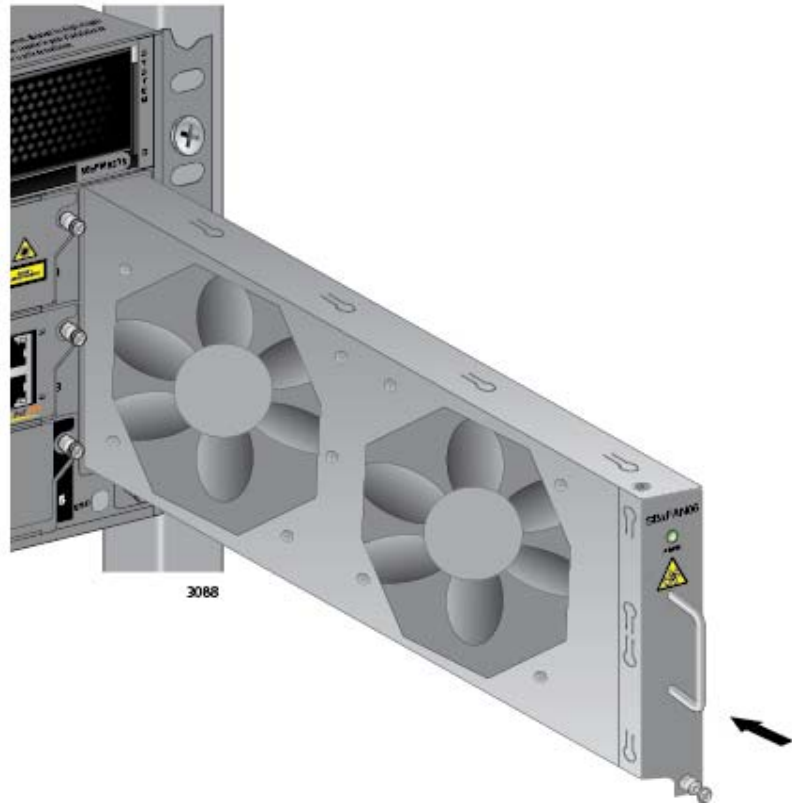

Figure 167. Installing a New AT-SBxFAN06 Fan Module
1. Orient the new module with the LED and module name on top and carefully slide the module into the slot in the chassis. Refer to Figure 167 on page 258.